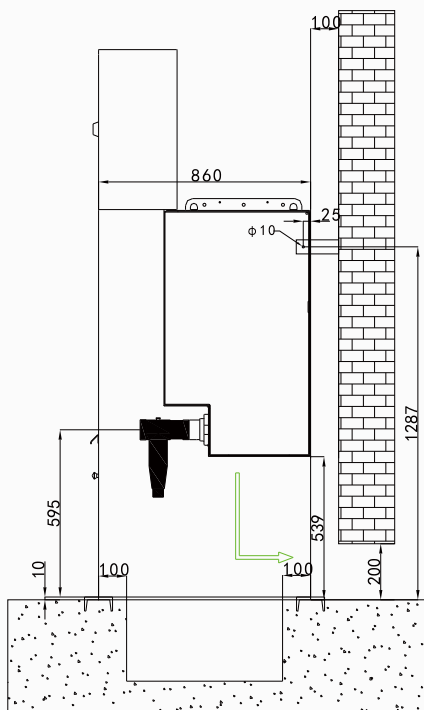

Figure 4-9 Schematic diagram of cable trench construction
4.7.1 SF₆ gas is discharged to the rear of the substation (see Figure 4-9).